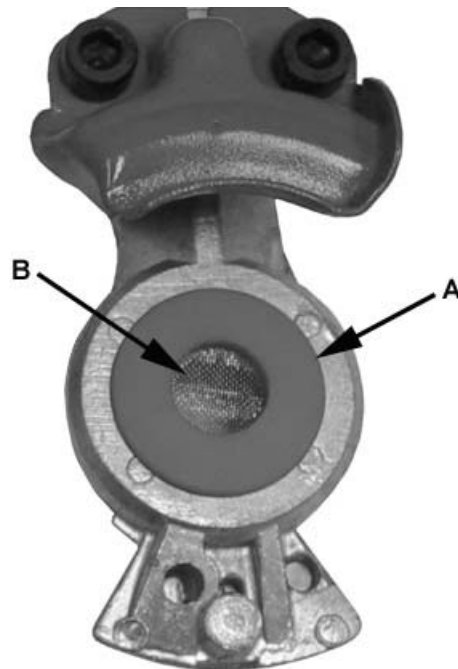

Figure 7-7 – Glad Hand Seals And Screens
Inspect all glad hand seals (A) and screens (B) (if equipped) for damage and wear. Replace if damaged or worn. See Figure 7-7.